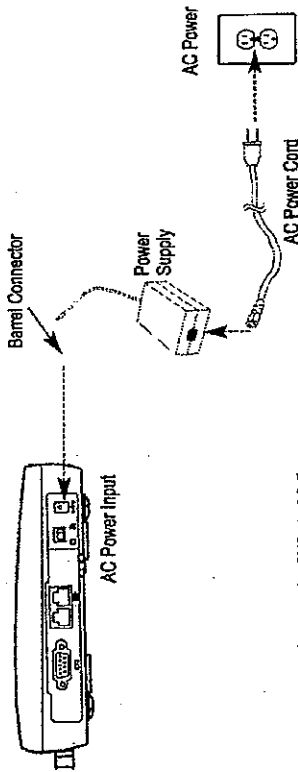

Figure 9b - Connect the SX5e to AC Power.
2. Connect the barrel connector of the power supply to the AC power input receptacle of the SX5 - see Figure 9b.